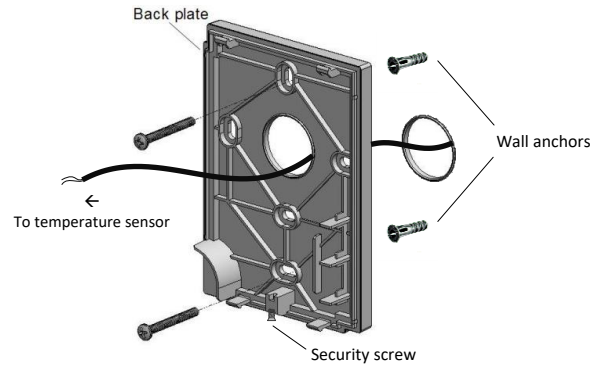
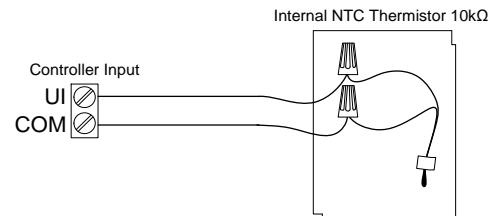

Figure 5-1: Mounting an Allure EC-Sensor-T
Figure 7-1: 10k Ω Type 2 NTC Thermistor Wiring
1. Remove the security screw from the device (Figure 5-1).
2. Open the device by pressing in the two (2) tabs on the bottom of the device and pulling the bottom side of the front plate out.
9. Strip each wire if needed and connect each one according to the wiring diagram shown in this document (Figure 7-1).
5. Strip each wire if needed and connect each one according to the wiring diagram shown in this document (Figure 7-1).